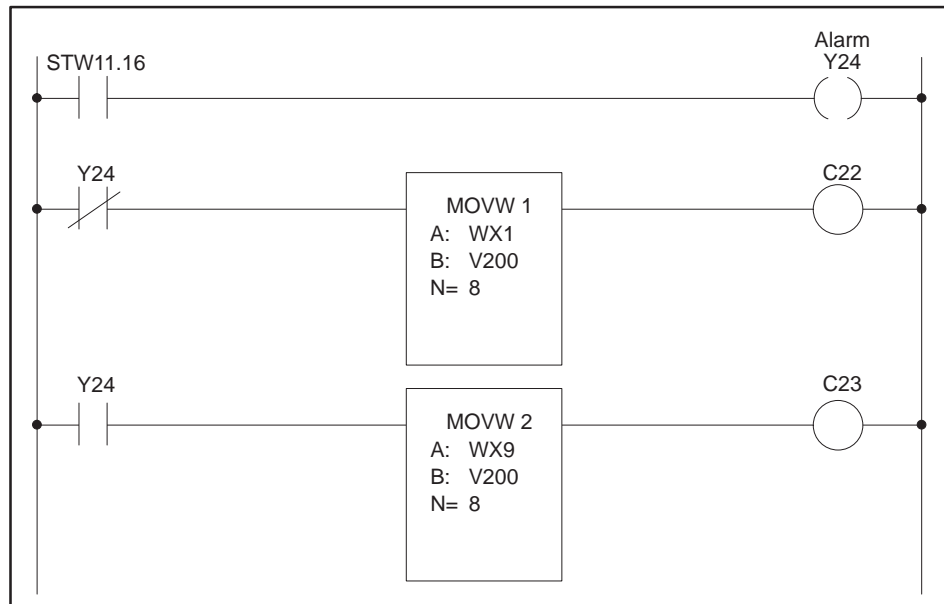

Figure E-28 RLL for Status Word Application Example
**Explanation** The RLL solution is shown in Figure E-28. The status of Input Module #1 is checked with a bit-of-word contact. If the contact turns on (bit 16 in STW11 = 1), the alarm Y24 turns on. The program then uses Y24 to determine which module should source V200 through V207.